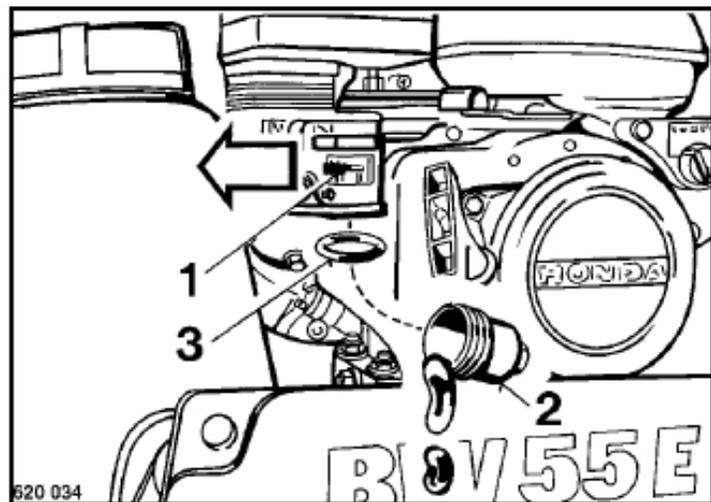

Fig. 39
- 1 Close the fuel valve 1 (Fig. 39).
- 1 Unscrew the fuel sludge filter (2) and clean it with petrol.
- 1 Screw the fuel sludge filter tightly in with a new seal ring (3).